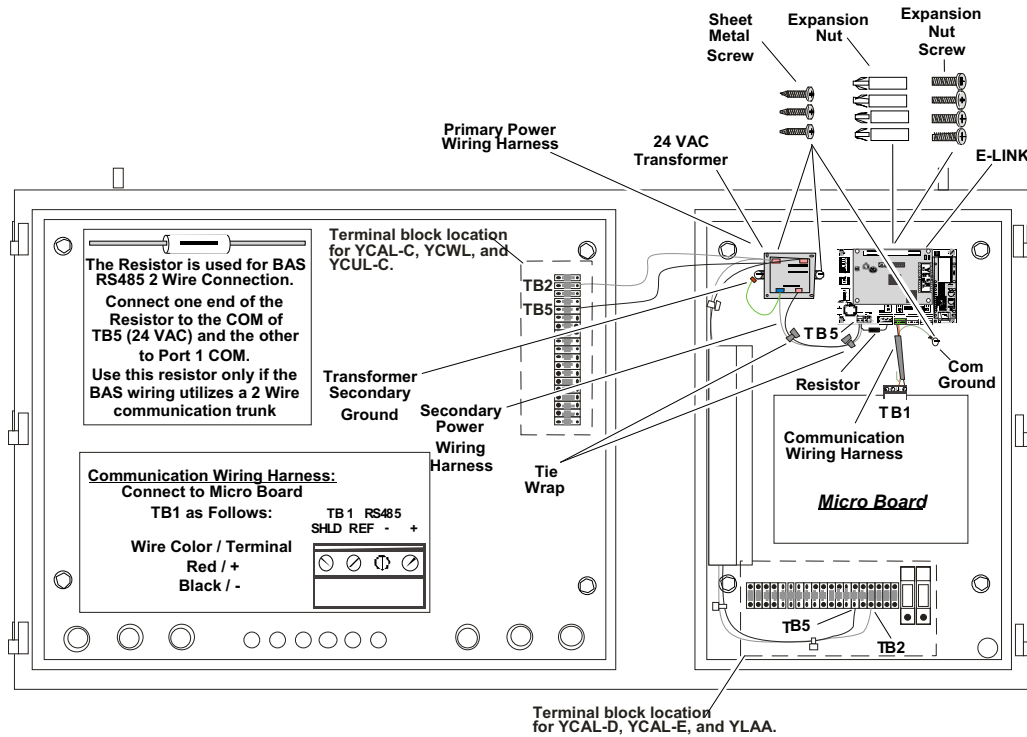

Figure 3: IPU-II Panel Installation (Installation Kit Not Available in Europe)
1. Attach the E-Link Gateway board to the panel in the upper right side of the enclosure using the four expansion screws and nuts provided in the IPU-II Panel Installation Kit (see Figure 3).
2. Attach the 24 VAC transformer to the panel to the left of the E-Link board using two screws (see Figure 3).